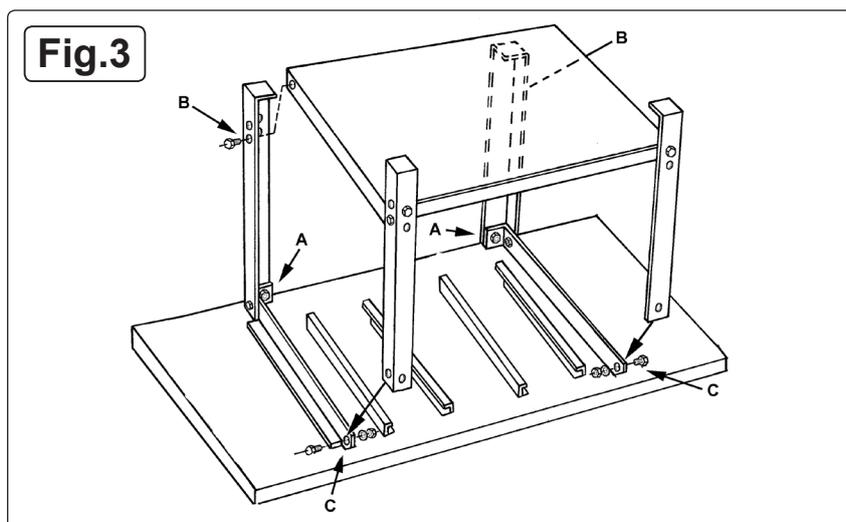

Fig.3
- 5.4. Put some protective material onto the floor and place the bench top face down on top of it. Refer to fig.3. Attach the remaining two legs to the back edge of the upturned bench using the nuts, bolts and washers provided, as shown in fig.3.A.
- 5.5. Lift the shelf with the legs attached and stand it on to the upturned bench top so that the legs go between the inner edge of the bench and the supports and the back edge of the shelf rests inside the legs already attached to the bench as shown in fig.3. Ensure that you have adequate help to do this.
- 5.6. Attach the back edge of the shelf to the rear legs using two sets of fixings on each leg. These fixings go in the holes furthest away from the feet. (See fig.3.B.)
- 5.7. Now bolt the front legs to the cross members on the underside of the bench top. The legs should be on the outside faces of the cross members as indicated on fig.3.C. All fixings should be hand tight at this stage.